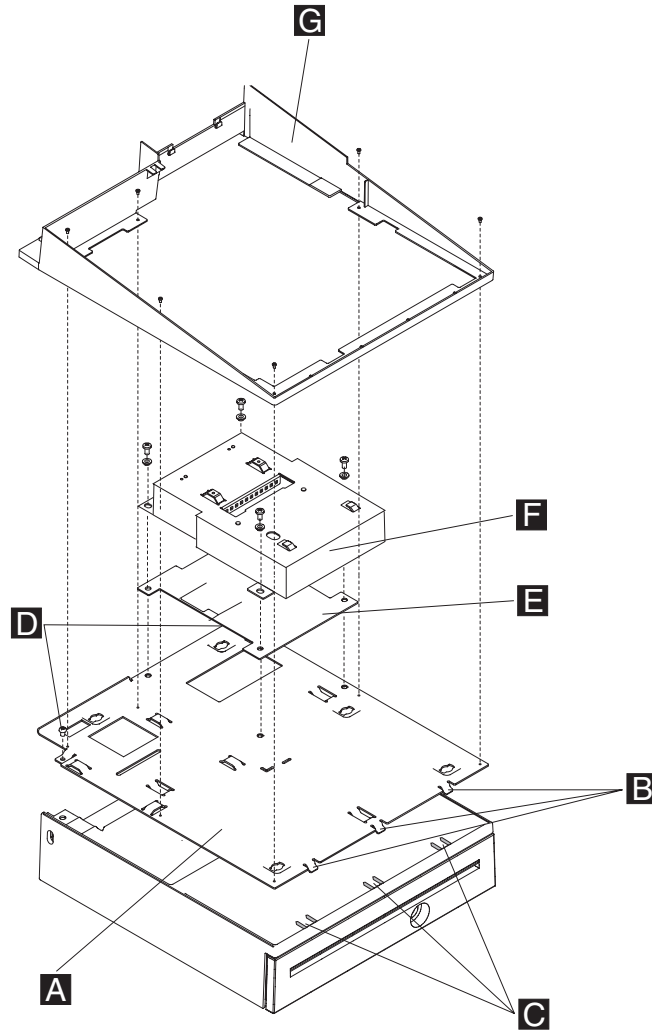

Figure 55. Installing the keyboard-integration tray on a cash drawer
- a. Tilt the integration tray down so the three tabs **B** align with the three tab holes **C** on the cash drawer as shown in Figure 55. Set the integration tray down on the cash drawer while aligning the screw holes **D** with holes on the cash drawer.
7. Attach the mounting plate **F** to the integration tray with four plastic washers and screws as shown in Figure 55.